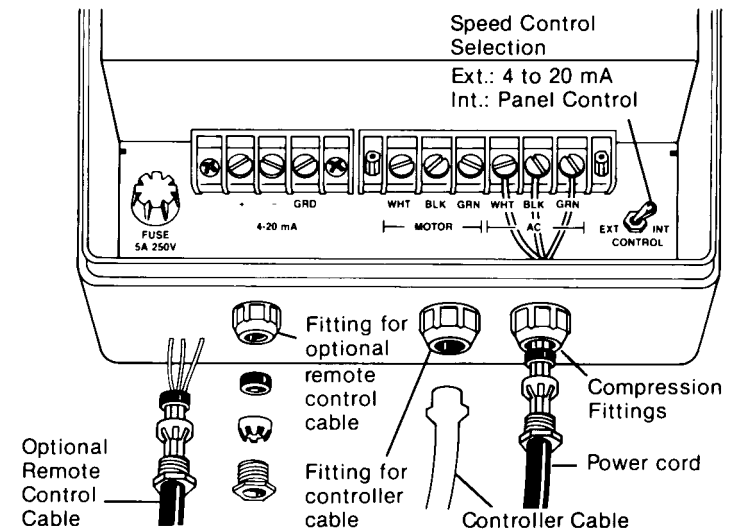

Figure 1.
1. Connect the remote speed control to the terminal strip on the bottom of the controller. (See Figure 1.)